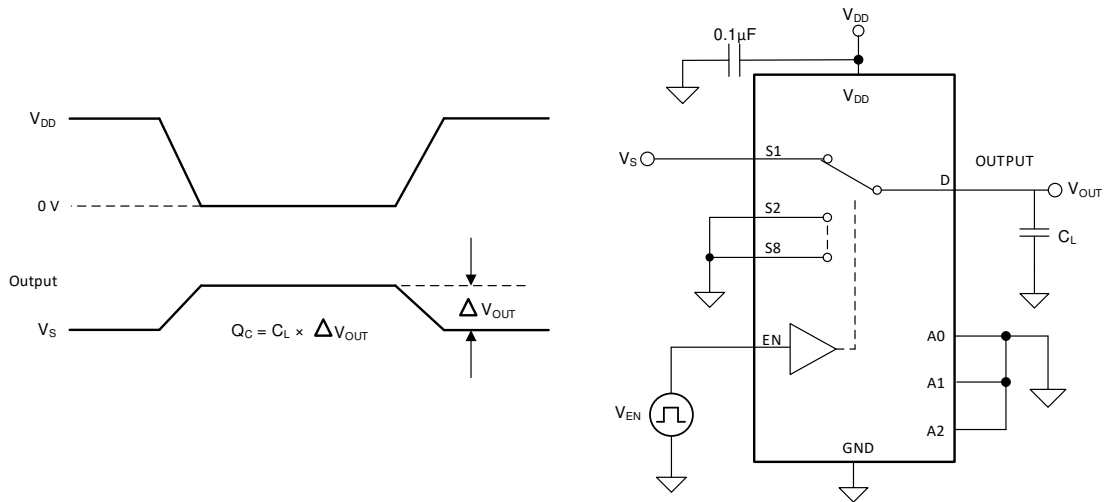

Figure 7-7. Charge-Injection Measurement Setup
The TMUX1208-Q1 has a transmission-gate topology. Any mismatch in capacitance between the NMOS and PMOS transistors results in a charge injected into the drain or source during the falling or rising edge of the gate signal. The amount of charge injected into the source or drain of the device is known as charge injection, and is denoted by the symbol Q_C . Figure 7-7 shows the setup used to measure charge injection from source (Sx) to drain (D).